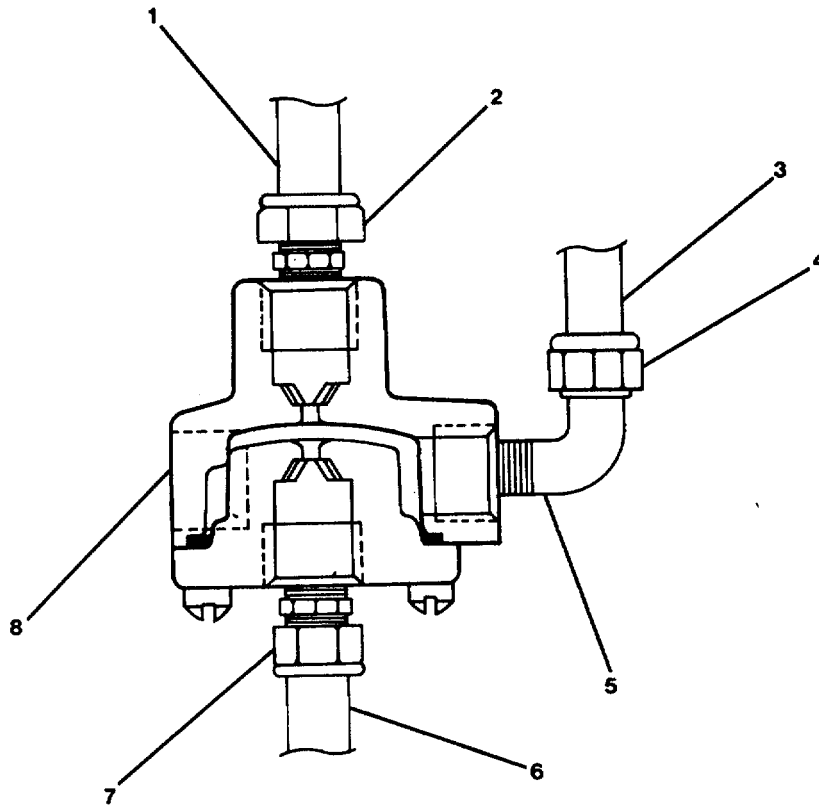
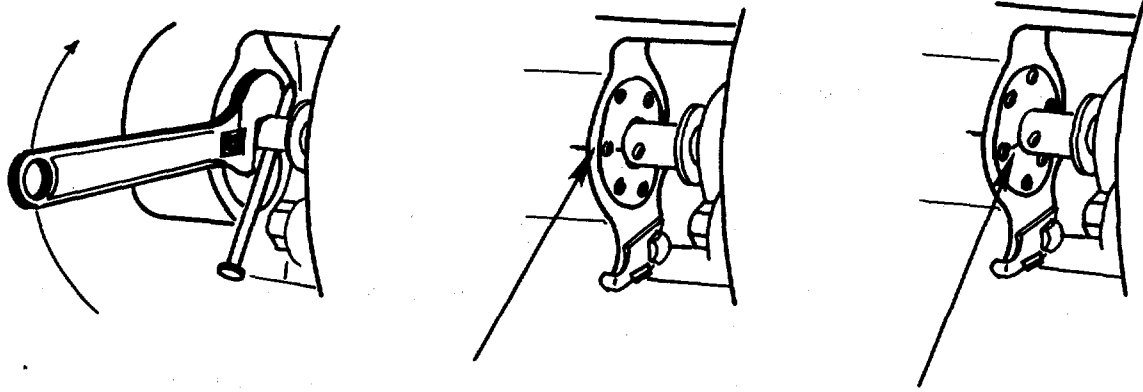

FIGURE 3-92. *Fresh Water Centrifugal Pump.*
FIGURE 3-93. *Impeller Running Clearance Adjustment.*
DISASSEMBLY (Figure 3-92)
To assist removal of centrifugal pump impeller retaining hex nut, the pump shaft is held stationary by placing-either a screwdriver or nail of suitable size through hole provided on the close coupled pump shaft (Figure 3-93).
- h. Install screwdriver or nail through hole in pump shaft (11, Figure 3-92).
- i. Remove hex plain nut (9).
- j. Remove impeller (10) by pulling straight off shaft.
- k. Remove key (12).
- l. Remove preformed packing (4).
- m. Remove plain seal (14).
- o. Remove four hexhead capscrews (19).
- p. Separate pump shaft (11), impeller adjustment screw (16), annular ball bearing (21) and pump frame (13) as a unit from motor shaft (22) and motor housing flange (20).
- q. Remove hex head capscrew (17).
- r. Remove pump lock (18).
- l. Install key (12).
- m. Install impeller (10).
- n. Install hex plain nut (9).
- o. Install pump raceway (6).
- p. Install two machine screws (7).
- q. Install rubber bushing (5).
- r. Install case (2).
- s. Install plug (3)
- t. Install two pipe plugs (8).
- u. Install four hex head capscrews (1).
- v. Adjust impeller running clearance (Figure 3-93).
- (1) To check pump for slack or binding, rotate pump shaft back and forth with screwdriver or nail used during assembly.
- (2) Use spanner wrench to rotate impeller adjusting screw clockwise until a slight drag is felt as the impeller comes in contact with the pump raceway. At this point, make a mark on the pump frame and across one of the spanner wrench holes on impeller adjusting screw.
- (3) Use spanner wrench to rotate impeller adjusting screw in opposite direction (counterclockwise) to back the impeller off and provide clearance between impeller and pump raceway. The proper clearance is obtained by moving the impeller adjustment screw approximately one half the distance between two of the spanner wrench holes as indicated by the reference marks made in step (2) above.
- (4) Remove spanner wrench.
- (5) Remove screwdriver or nail from hole in pump shaft.
- (6) Insert tab end of pump lock (18, Figure 3-92) into nearest spanner wrench hole as other end of pump lock is aligned with mounting screw hole (Figure 3-93).
- (7) Install hex head capscrew (17, Figure 3-92).